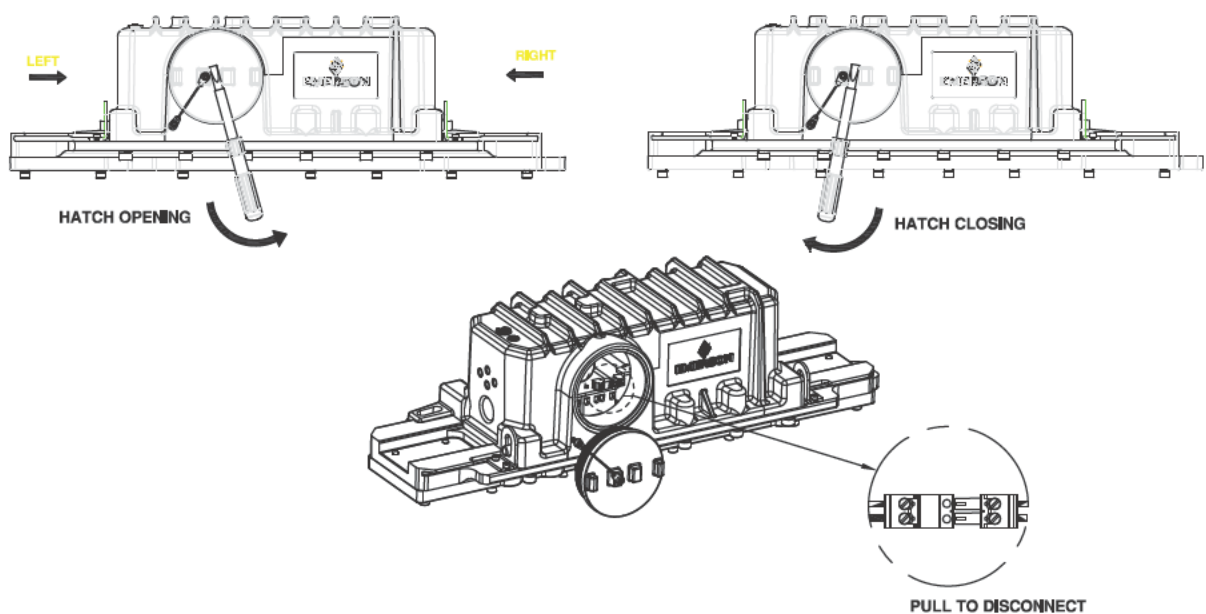

FIGURE 14: LUMINAIRE VIEWS (DISCONNECTION METHOD)
2. Insert closed loop of safety cable through the slot provided on the ends of the luminaire. It is recommended to loop the cable through the slot provided on the cover, wiring compartment and baseplate. (See Figures 14 and 15)
2. Loosen the luminaire hatch by rotating anticlockwise (refer to Figure 14).
- a. Disengage “Battery Pack Quick Connect.” For reference, see image below (Figure 14).
- b. Wait for five (5) seconds.